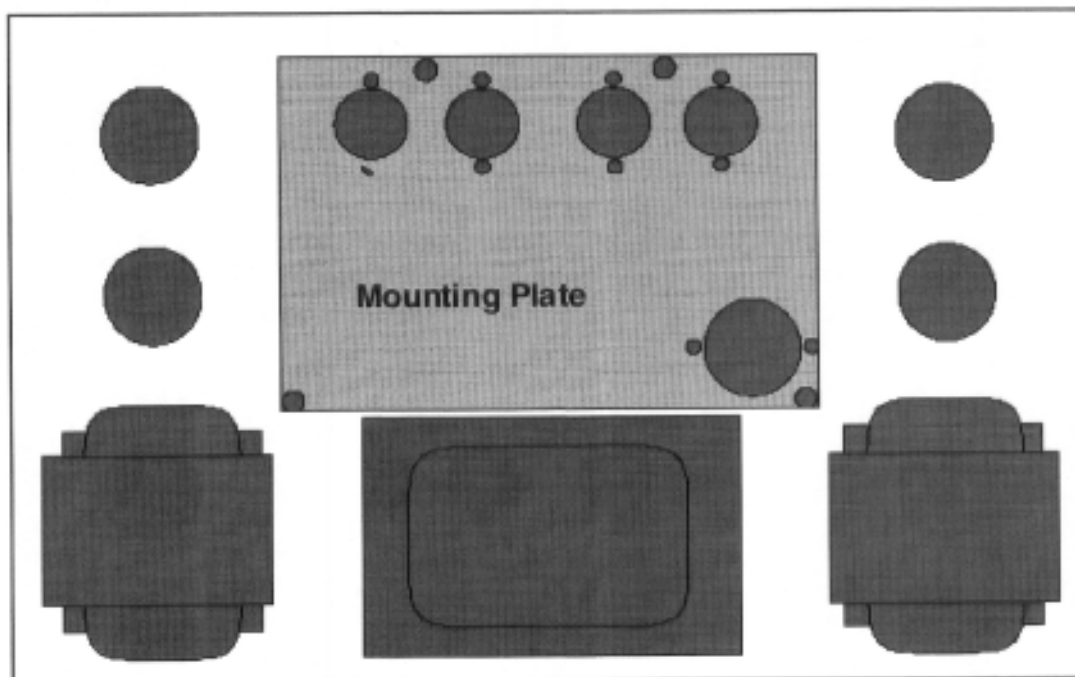

Figure 1. Top View of Chassis
We recommend that you follow this assembly sequence. Refer to figures 1 through 9 as you follow the assembly instructions.
- 1) Install the external mounting plate to the chassis using the supplied black socket head cap screws. The mounting plate lays flush on top of the chassis surface without the use of washers or standoffs. If desired, washers or standoffs may be used between the plate and chassis which will allow a little better air flow through the chassis. Mounting the plate to the chassis will more than likely require that you drill at least a couple of new holes in the existing chassis. The plate has six mounting holes and it is recommended that you use all of them to secure the plate to the chassis. Refer to figure 1.